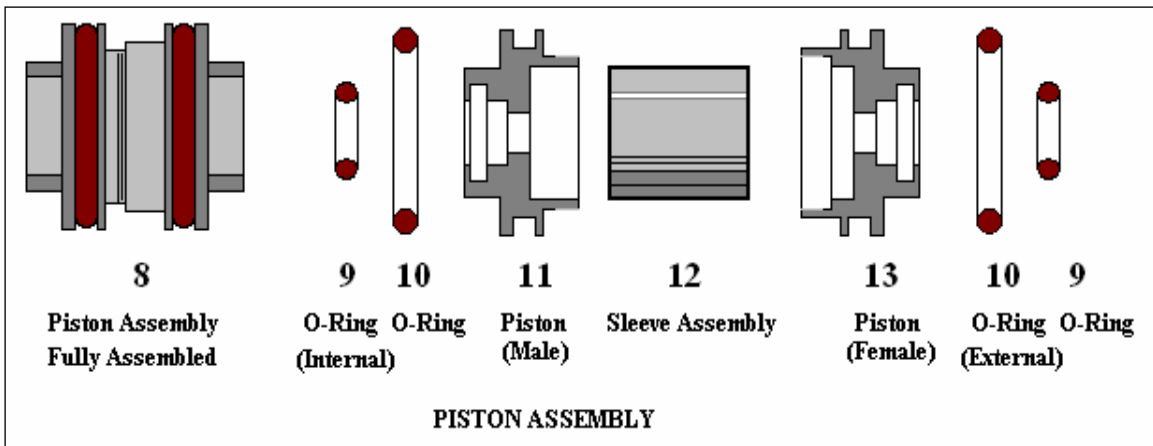

Figure 4-2
Refer to Figure 4-2, above, for the following instructions.
Refer to Figure 4-2 to reassemble the Piston Assembly, following the instructions below.
3. As shown in Figure 4-2, each Piston half has two O-rings; one larger, external O-ring [10] and one smaller, internal O-ring [9]. To remove any of these, use a tool such as a small wooden skewer or nylon rod, approximately 1/8” in diameter and tapered at one end. Use care not to scratch or leave particles in the O-ring grooves.